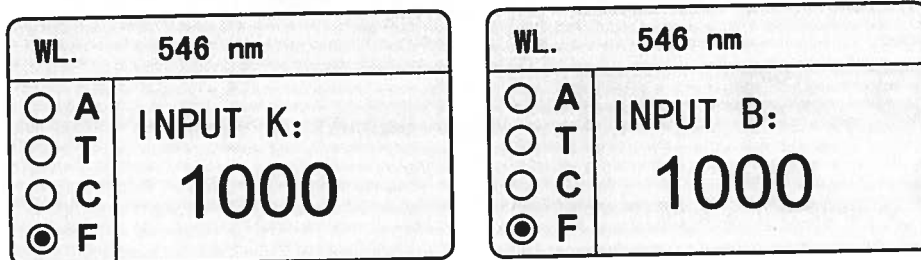

Fig. 4-9
- 3) Press  or  to set the coefficient value of K and B, followed with  pressed to confirm. (Fig. 4-9) Then you can test the samples as the following steps.